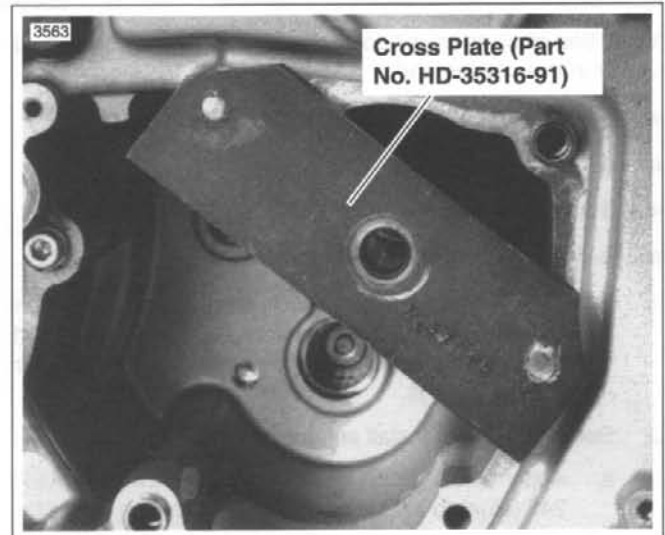

Figure 6-58. Cross Plate Mounting
1. Locate MAIN DRIVE GEAR REMOVER AND INSTALLER (Part No. HD-35316-A). See Figure 6-58. Place support bracket pins in appropriate holes in transmission case.